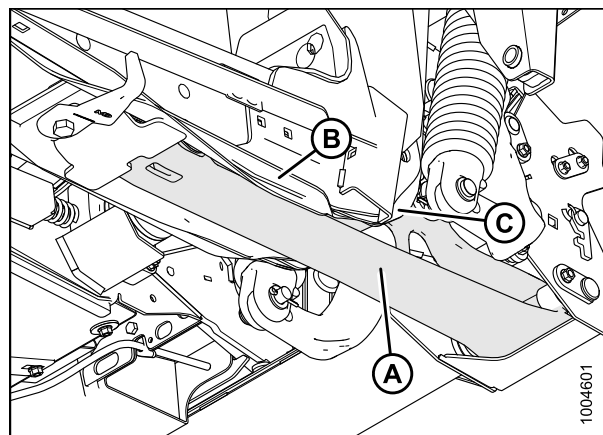

Figure 4.154: Float Module Underside
6. Continue forward until float module arms (A) contact stops in balance channels (B) in Figure 4.154: *Float Module Underside*, page 291.
7. Adjust the length of the center-link (A) using the header angle hydraulics to approximately align the center-link eye (B) with the hole in the header bracket.